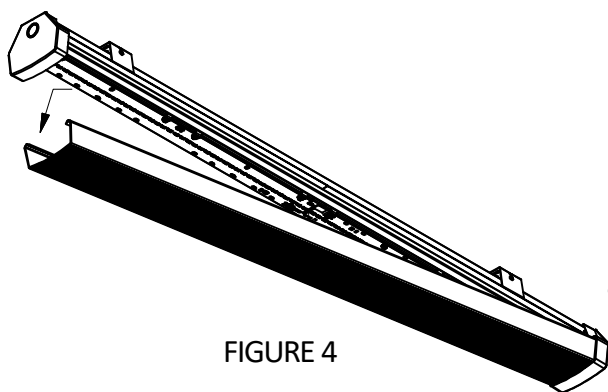

FIGURE 4
- B. With the sides of the lens pressed inward at one end, shift the entire lens toward the same end as shown. (See Figure 4)